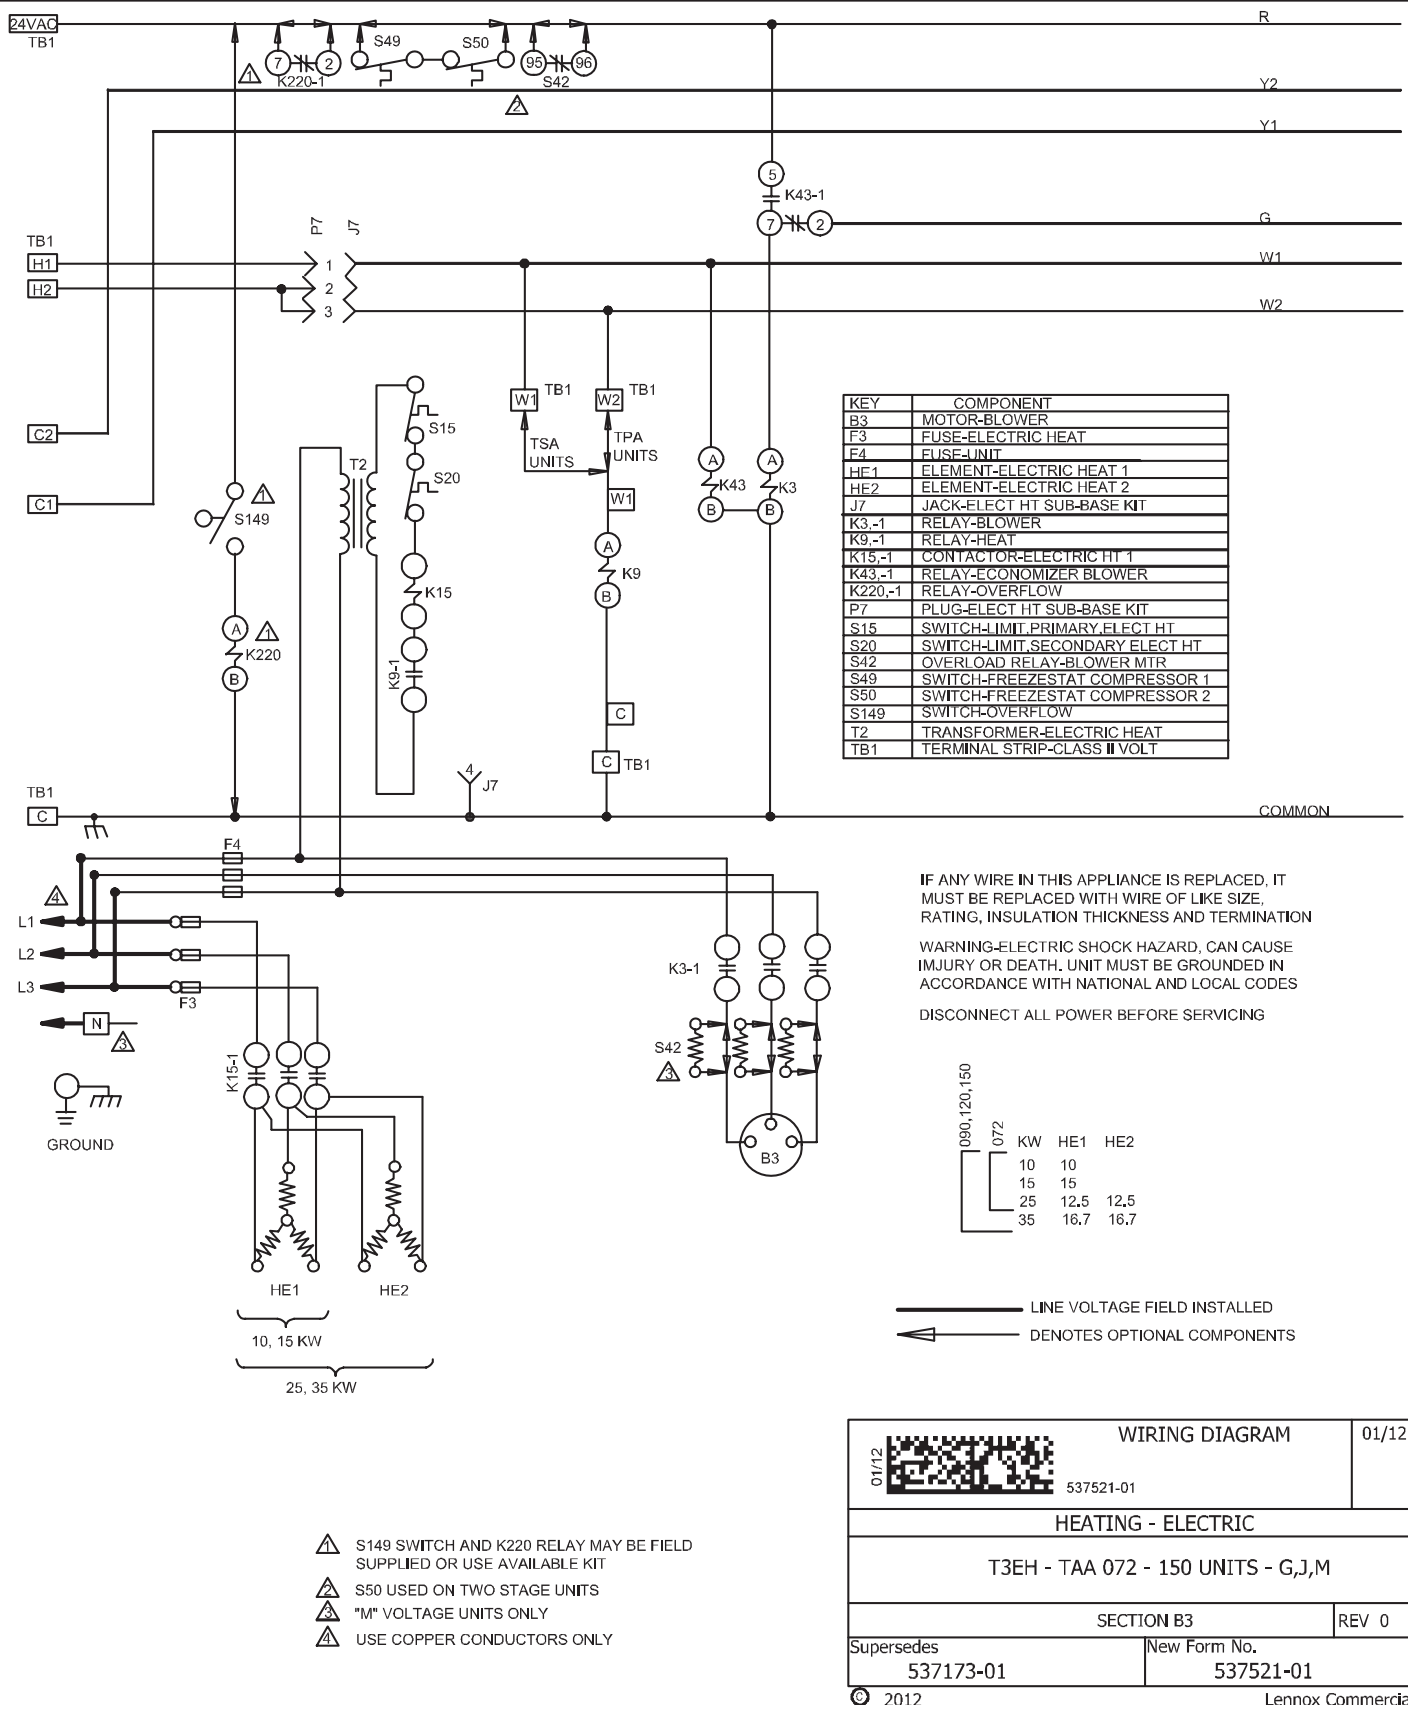

FIGURE 10. T3EH-10, 15, 25 and 35 (G, J and M Voltages) for use with TAA 072 through 150
NOTE - Refer to figures 10 through 17 for TAA Series wiring. Refer to figures 18 through 25 for ELA Series wiring.
- 2 - See figures 10 through 25 for proper wiring. The T3EH electric heat section includes provisions for high and low voltage field wiring.